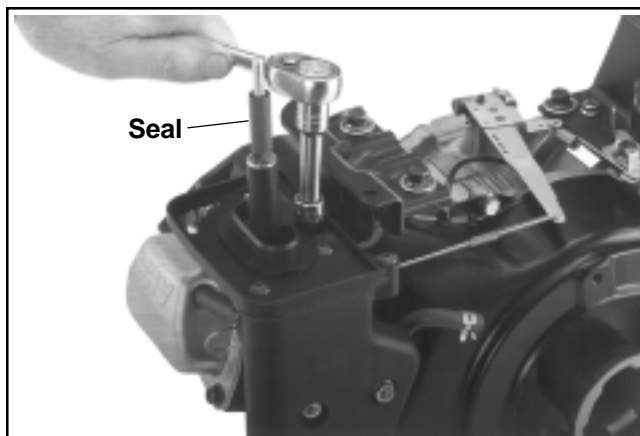
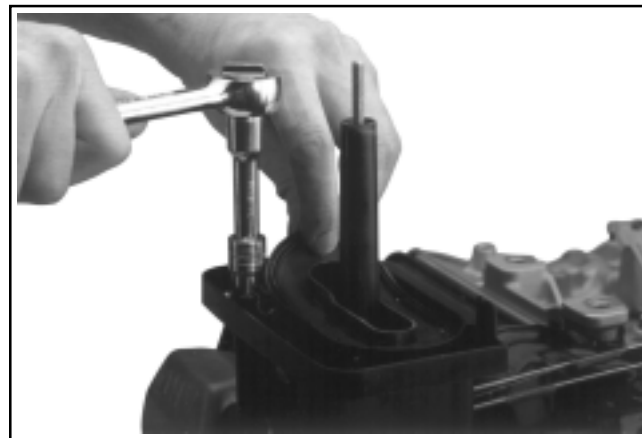

Figure 11-104. CS4, CS6. Installing Air Cleaner Base.
Figure 11-106. CS8.5 (spec. 95xxxx). Air Cleaner Base and Rubber Seal.
1. Install the air cleaner base gasket onto the mounting studs. Attach the breather hose onto the air cleaner base connection port. Then install the air cleaner base onto the studs. Connect the opposite end of the breather hose to the valve cover. Secure the base with the two hex. flange nuts on the mounting studs and the one or two hex. flange screw(s) into the support bracket(s), depending on the model involved. See Figures 11-104, 11-105, and 11-106. **On CS8.5 (spec. 95xxxx) only**, install or make sure the rubber seal for the air cleaner is clean, installed, and in good condition. See Figure 11-106.
2. Make sure the seal is on the air cleaner base stud. See Figures 11-104, 11-105, and 11-106. Install the filter element with precleaner and secure with the wing nut. **Do not** install the outer air cleaner cover and knob at this time.